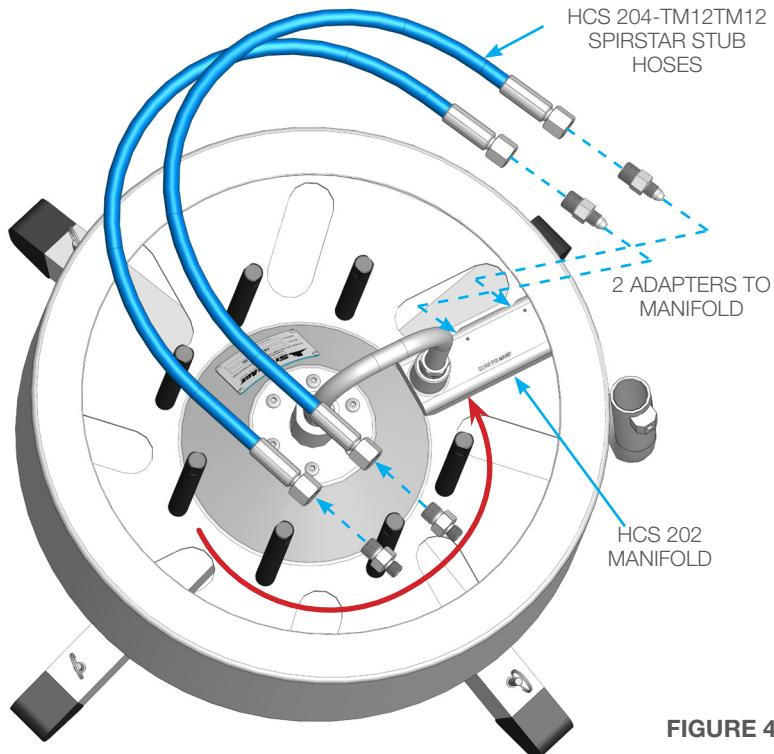
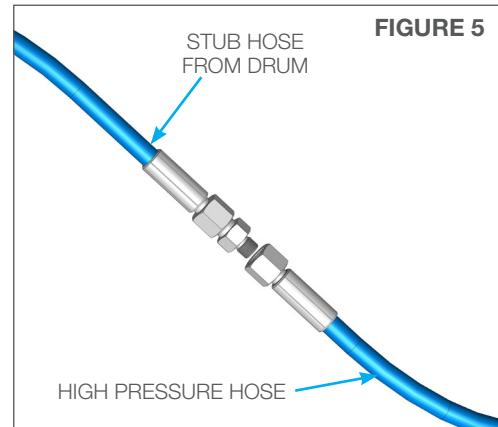

FIGURE 4
FIGURE 5
1. Lightly apply Blue Goop® Swagelok® Brand Anti-seize or an equivalent to all Adapter threads. Install one pair of hose adapters into the HCS 202 Manifold. Then loosely thread the female stub hose ends onto the adapters on the manifold. Thread the other pair of hose adapter onto the opposite ends of the stub hoses. Thread the female stub hose ends onto the adapters that are installed in the manifold. (**Figure 4**)
2. Thread the high pressure hoses onto the ends of the stub hoses (**Figure 5**) and continue to wrap the remainder around the rods, in the direction of the red arrow. (**Figure 4**)